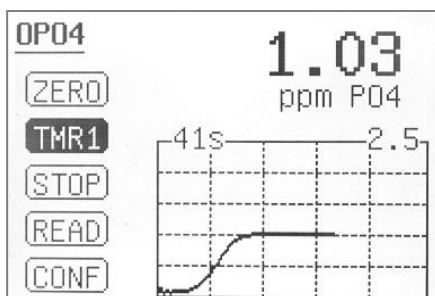

Figure 10 Concentration as a Function of Time
3. Place sample vial back into the sample vial compartment and press the timer button **TMR1**. Pyxis SP-900 will start to monitor the reaction between the reagent and the species you want to measure in the water sample. The concentration is shown in the chart as a function of time (Figure 10).
In order to show the concentration-time curve as shown in Figure 10 during the last timing step, Pyxis SP-900 must be zeroed using the prepared blank before the last timing step. Thus, the last timer button will not be selectable until Pyxis SP-900 has been zeroed using the prepared blank. Multi-timing step Hach® methods require zeroing the colorimeter using the prepared blank after the last timing step is completed. Pyxis SP-900 can optionally be re-zeroed using the prepared blank after the last timing step. The blank value measured will be subtracted from the concentration value measured at the end of the last timing step. Optionally, the **READ** button could be pressed to read the prepare sample again.
3. Place the prepared sample into the Pyxis SP-900 sample vial compartment and press the **TMR2** button to start the second timer. Pyxis SP-900 will display the measured concentration as a function of time as shown in Figure 10.